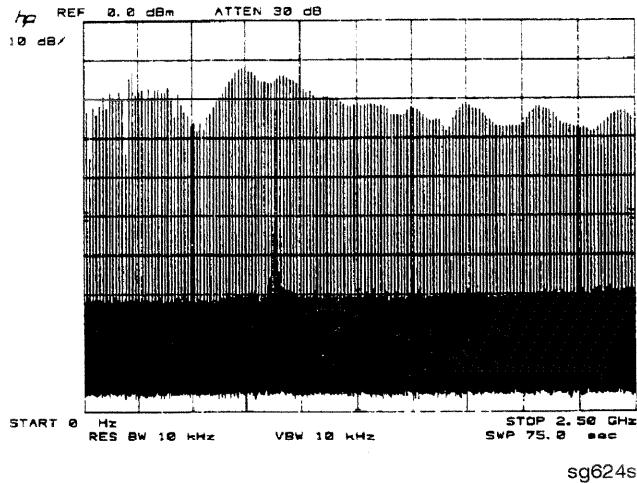

Figure 7-23. Pulse Generator Output
1. Remove the A7-to-A6 SMB cable (W7) from the A7 pulse generator assembly. Set the analyzer to generate a 16 MHz CW signal. Connect the spectrum analyzer to the A7 output connector and observe the signal. The A7 comb should resemble the spectral display in Figure 7-23.